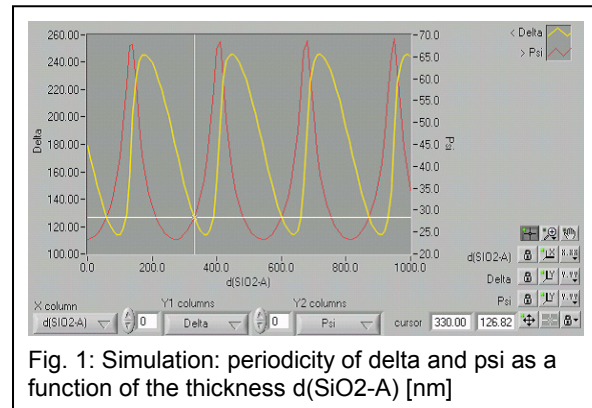
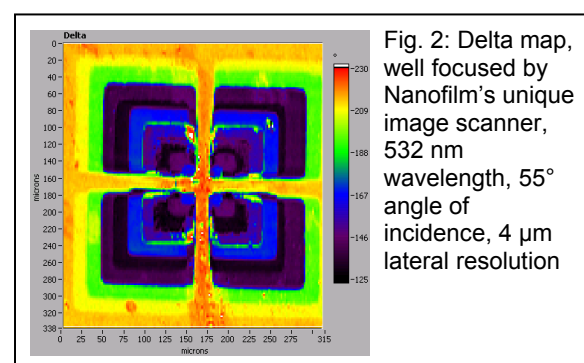

Fig. 1: Simulation: periodicity of delta and psi as a function of the thickness  $d(\text{SiO}_2\text{-A})$  [nm]
Fig. 2: Delta map, well focused by Nanofilm's unique image scanner, 532 nm wavelength, 55° angle of incidence, 4  $\mu\text{m}$  lateral resolution
Thickness measurement of a layer is a frequent application of ellipsometry. To this end the observables Delta and Psi are simulated with the optical model of the sample. The model contains free parameters, i.e. layer thickness  $d$ , which is varied until the difference (mean square error) of measured and observed delta and psi is minimal. The optical model can be used to simulate delta and psi as a function of the thickness  $d$ . For a transparent layer (i.e. extinction  $k = 0$ , fig. 1) delta and psi are periodic. The period length depends on the angle of incidence and the wavelength. With a single pair of delta and psi the thickness can only be single correctly evaluated up to a multiple of the period length, which is typical 250 nm. In order to evaluate a unique thickness either an angle of incidence or a wavelength spectrum of delta or psi has to be fitted. The imaging ellipsometer EP3-SW can record a delta map of the sample surface at one wavelength (fig.2) instead of single point measurements of delta usually done by non-imaging ellipsometers. The spectroscopic imaging ellipsometer EP3-SE records a wavelength spectrum of several delta maps and thus evaluates a thickness map without
1. On the same site of the sample record a set of delta maps at 400 nm, 488 nm, 532 nm (fig.2), 634 nm, 690 nm, 830 nm wavelength